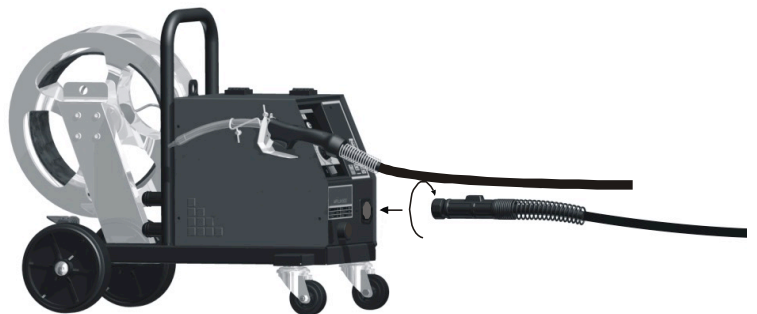

Fig.6
5.2 – Firmly connect the torch to wire feeder torch adaptor. Insert plug torch and complete rotate nut (Fig. 6).